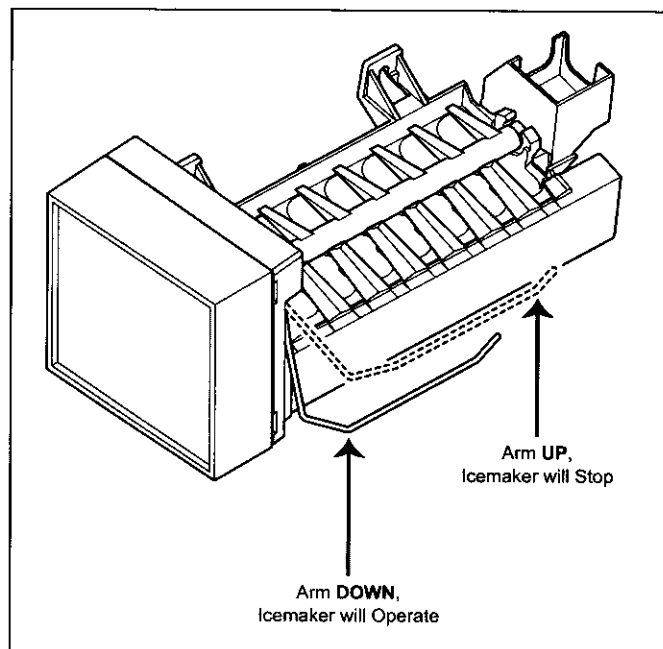

**Figure 6-11. End of Ice Making Cycle**
**End of Ice making Cycle (See Figure 6-11)**